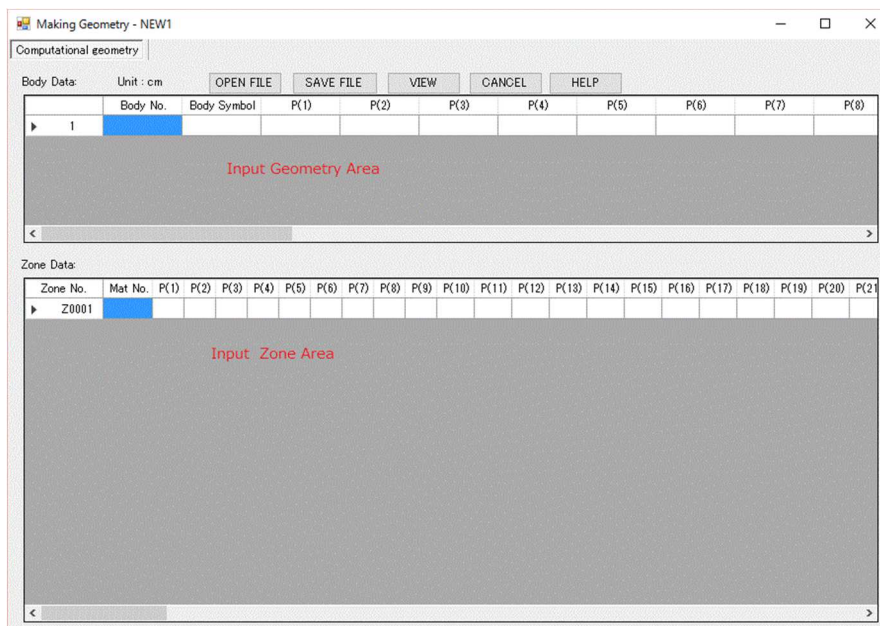

Fig.9.1-2 Window to create geometry data
Select [File]-[Making geometry data] in the main menu to open a window to create geometry data. Then, a window as shown in Fig.9.1-2 appears.
(caution) Number in ( ) is parameter number in Make Geometry. (1) is input Parameter Column 1 in table in Fig9.1-2. (and so fourth)